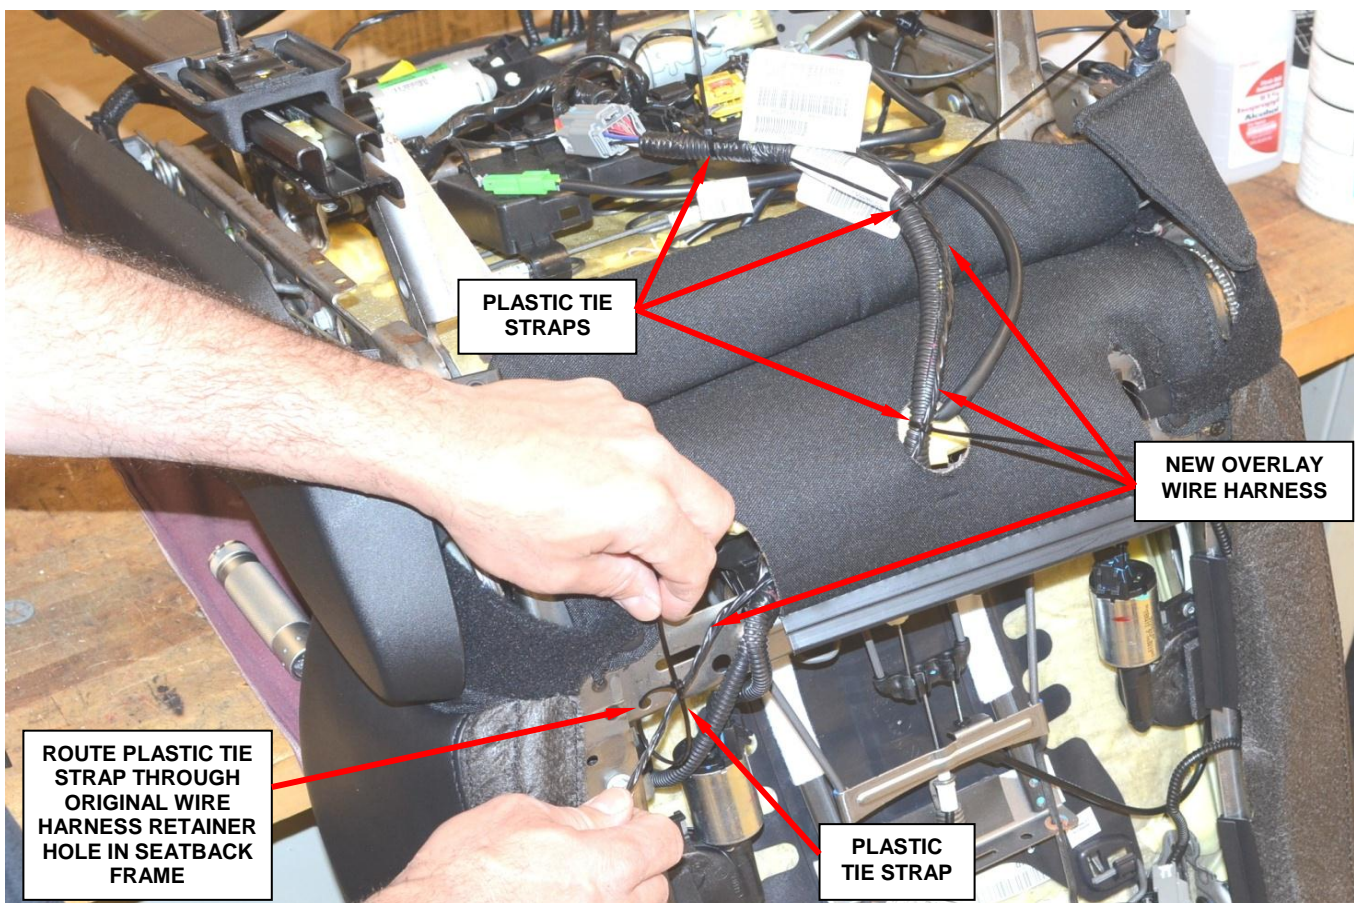

Figure 8 – Route and Tie Strap Overlay Wire Harness to the Original Wiring Harness (Except Challenger Right Side Front Seat)
15. Route the new airbag module overlay wire harness along the seatback (Figure 8).